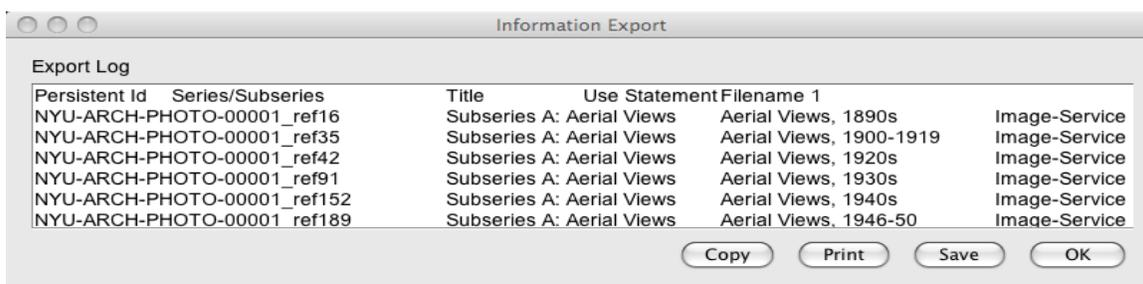

Figure 4
5. Press the “Export Work Order” button. This will search through the file level components, and then a dialog (see figure 4) containing the extracted information will be displayed. As above,